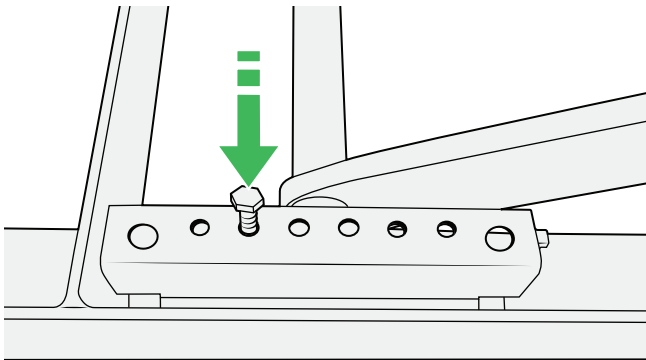

Figure 26
6. Place the safety bolts in the locking holes on both sides to secure the position of the scissor lift. See Figure 26.